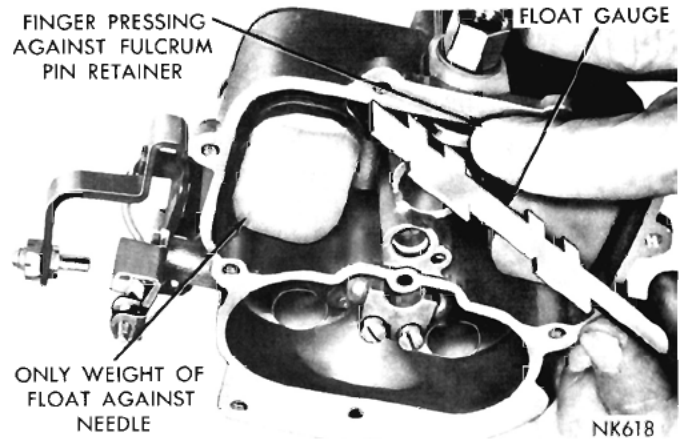

Fig. 8—Measuring the Float Setting
(1) To correctly set the float height when the carburetor is being overhauled, install the floats with the fulcrum pin and pin retainer in the main body.
(2) Install the rubber-tipped needle, seat and gasket in the body and tighten securely.
(3) Invert the main body so that the weight of the float only is forcing the needle against the seat. Hold finger against the retainer to fully seat the fulcrum pin.
(4) Using Tool T109-280 or a "T" scale, measure the float, as shown in (Fig. 8). There should be  $\frac{5}{16}$  inch from the surface of the fuel bowl to the **crown of each float at the center**.